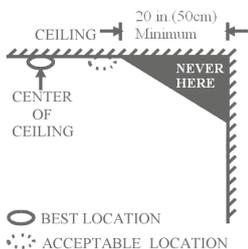

Figure 5: Recommended best and acceptable locations to mount smoke detectors
- Install smoke detectors as close to the center of the ceiling as possible. If this is not practical, put the detector on the ceiling, no closer than 20 inches (50 cm) from any wall or corner, as shown in Figure 5.
- Dead air spaces are often at the top of a peaked roof, or in the corners between ceilings and walls. Dead air may prevent smoke from reaching a detector. See Figures 5 and 6 for recommended mounting locations.